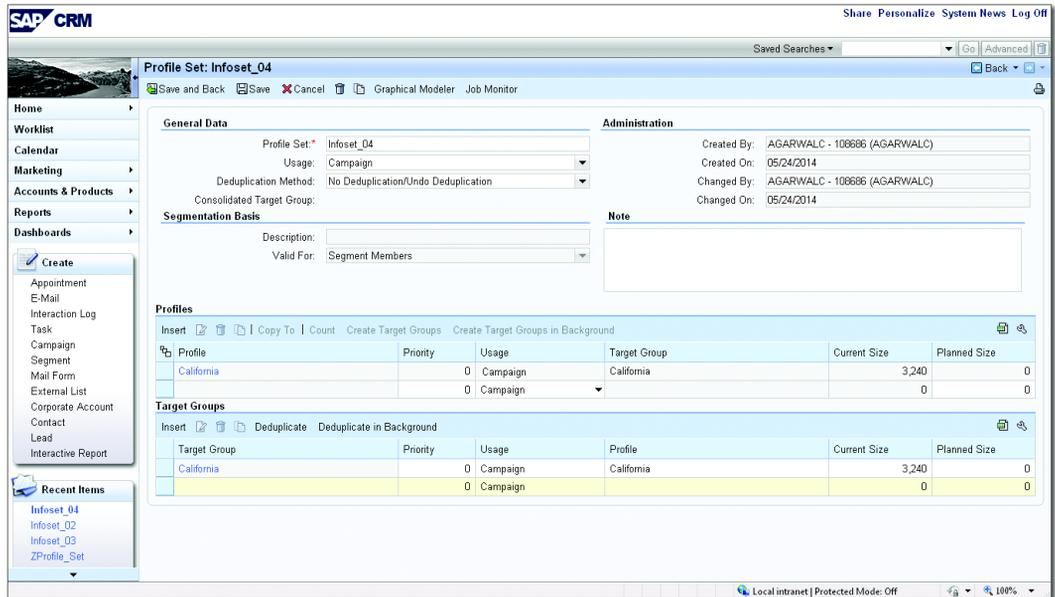

Figure 5.63 Profile and Target Group Created with the Business Partner Count
9. Again, right-click on the icon to select BUILD THE TARGET GROUP. You can build the target group in a foreground or background. After the target group is created, you can view it within the profile set, as shown in Figure 5.63.